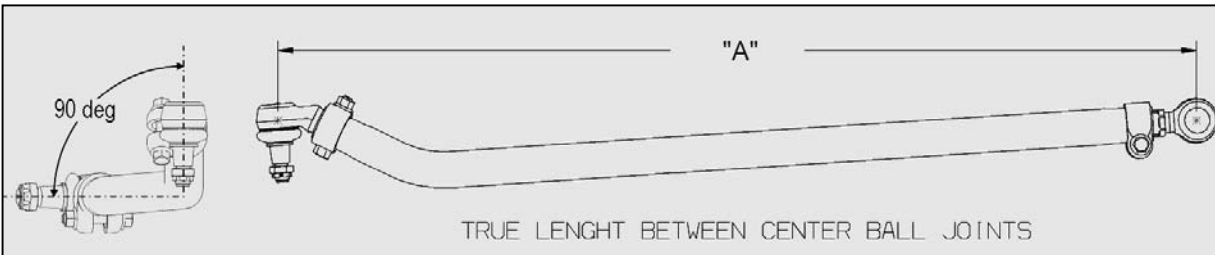

FIGURE 1
7. Unscrew the drag link elbow ball joint back out (**not more than 1 turn**) so the tapered shank points down as shown on FIGURE 1.
8. Unscrew the drag link elbow ball joint back out **one (1) full turn**. The tapered shank must point down as shown on FIGURE 1.
- Unscrew the drag link elbow ball joint out **1 inch**. The tapered shank must point down as shown on FIGURE 1.